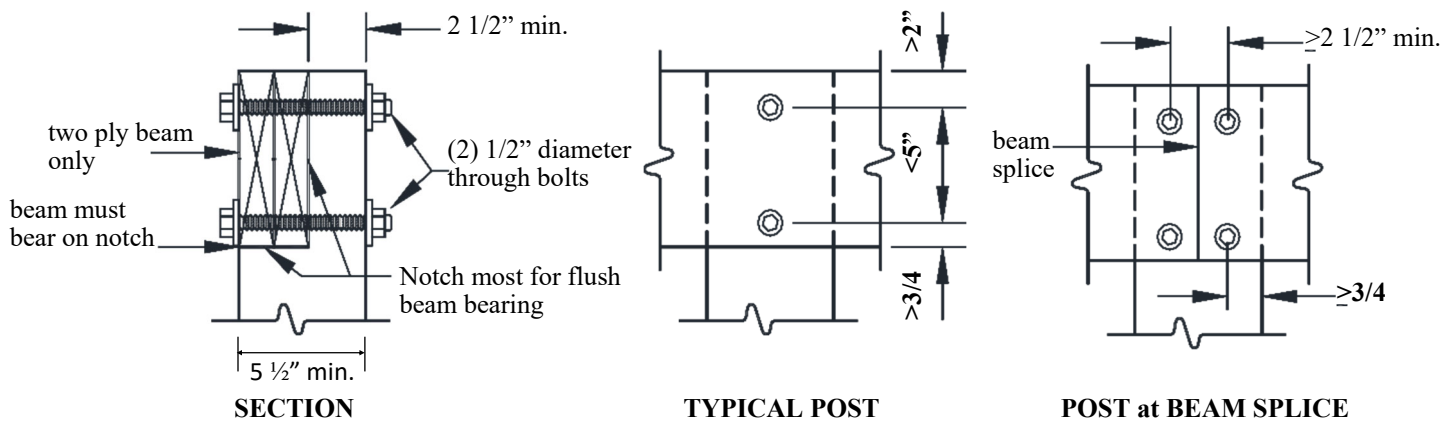
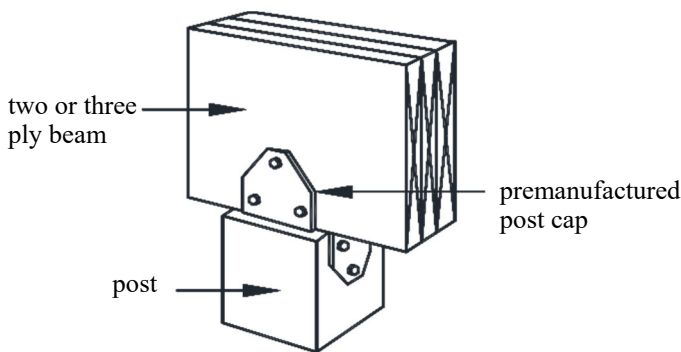

Figure 16: Notched 6x6 Post to Beam Connection
Figure 17: Post Cap Connection
- Beams shall be attached to 6x6 posts using one of the methods shown in FIGURE 16 or 17. Beams shall be attached to 4x4 posts using the method shown in FIGURE 17.